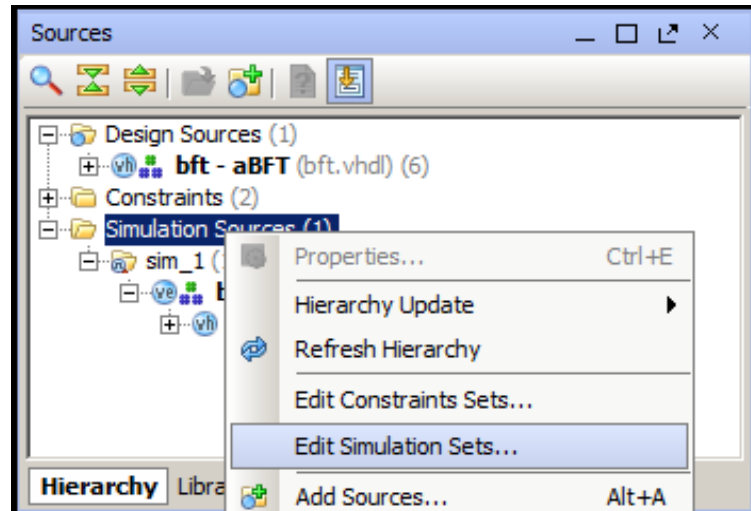

Figure 7-8: Edit Simulation Sets Option
1. In the Sources window popup menu, select **Simulation Sources > Edit Simulation Sets**, as shown in Figure 7-8, page 129.